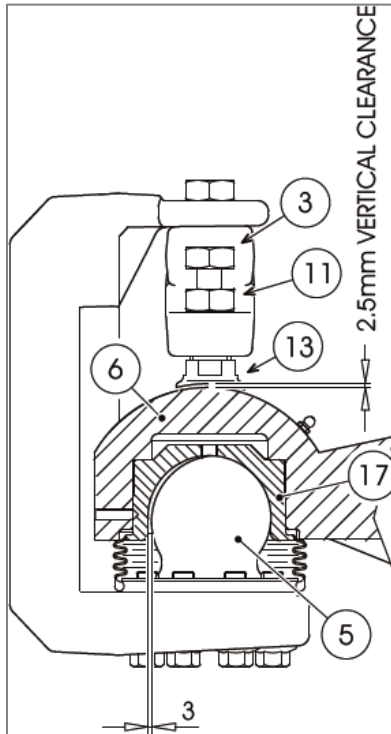

Figure 6.13
USE FIGURE 6.13 TO FOLLOW STEP 5:
- Adjust the **adjustment screw (3 in Figure 6.13)** until there is a 0.3 - 0.5 mm vertical clearance between the **guard disk (13 in Figure 6.13)** and the **ball cup (6 in Figure 6.13)**. Lock setting with **counter nut (11 in Figure 6.13)**.
- Remove the **rubber dust proof bellows protection cover (7 in Figure 6.13)**.
- Loosen the **adjustment screw (3 in Figure 6.13)** and the **counter nut (11 in Figure 6.13)**.